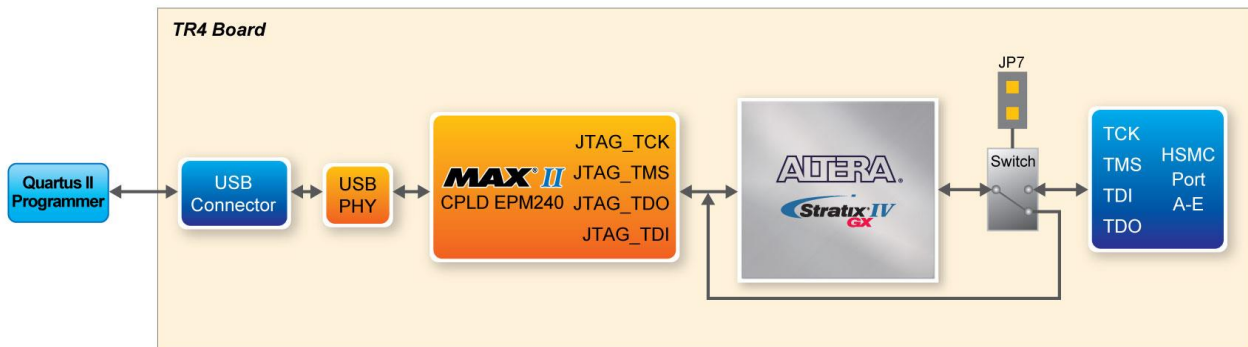

Figure 2-1 JTAG Configuration Scheme
- Connect the USB cable supplied directly to the USB Blaster port of the TR4 board (see Figure 2-1).